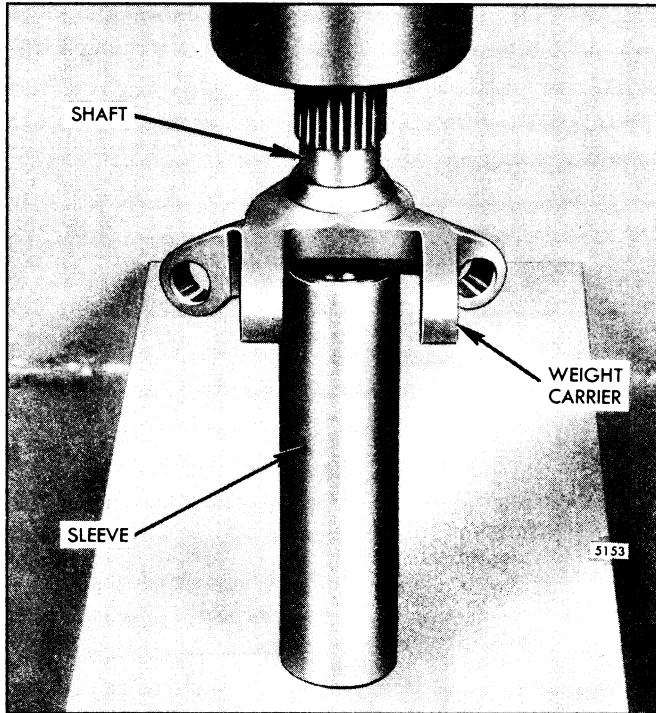

Fig. 17 - Installing Shaft In Weight Carrier
- b. Slide the weight carrier over the end of the weight shaft. Place the weight carrier and weight shaft on the bed of an arbor press (Fig. 17).